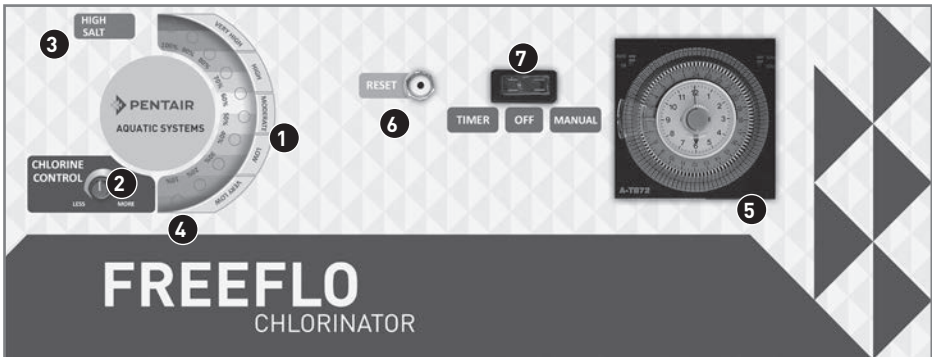

Fig.2
All Pentair FREEFLO chlorinators are fitted with a 240v 10A power socket located on the right hand underside of the power pack. Your pool pump should be plugged into this socket so that the chlorinator and pump activate together when the timer switches on at the allocated time settings or in a model without a timer the pump and chlorinator is controlled by the on/off switch. (7 in fig 2). Failure to plug the pool pump into this socket could lead to the chlorinator staying on with no water circulation. In case of water probe failure, over heating and a possible gas build up may occur. *Please see fig.2 below in regards to function control.*
1. Chlorine Output LEDs – Fig.2
If the correct salt level is in the pool then all 10 lights will illuminate. Each light represents 10% chlorine output. If all lights are not illuminated then a higher salt level will be required. Make sure all salt is dissolved properly before adding more. The chlorine control, (2 in fig. 2), will increase or decrease the chlorine output to suit your chlorine demand. If all of the indicator lights flash then there is a water fault problem.
2. Chlorine Control – Fig. 2
3. High Salt Light – Fig. 2
This light is a red warning indicator and will only illuminate when the salt level in the swimming pool is higher than 4500 parts per million. If this light is on, decrease the output by turning the chlorine control, (2 in fig.2), anticlockwise until the high salt (red light) goes off and the 10 chlorine output LEDs are on (1 in fig 2). If this light is the only one illuminated then the unit has gone into over temperature cutout and will reset once back to normal running temperature.
4. Polarity Light – Fig. 2
The polarity light is the first indicator light, 10% in the chlorine output array, (4 in fig.2). This light will alternate between orange and green every reversing cycle, 4-12 hours. Factory setting is a 12 hour cycle.
5. Timer – Fig. 2